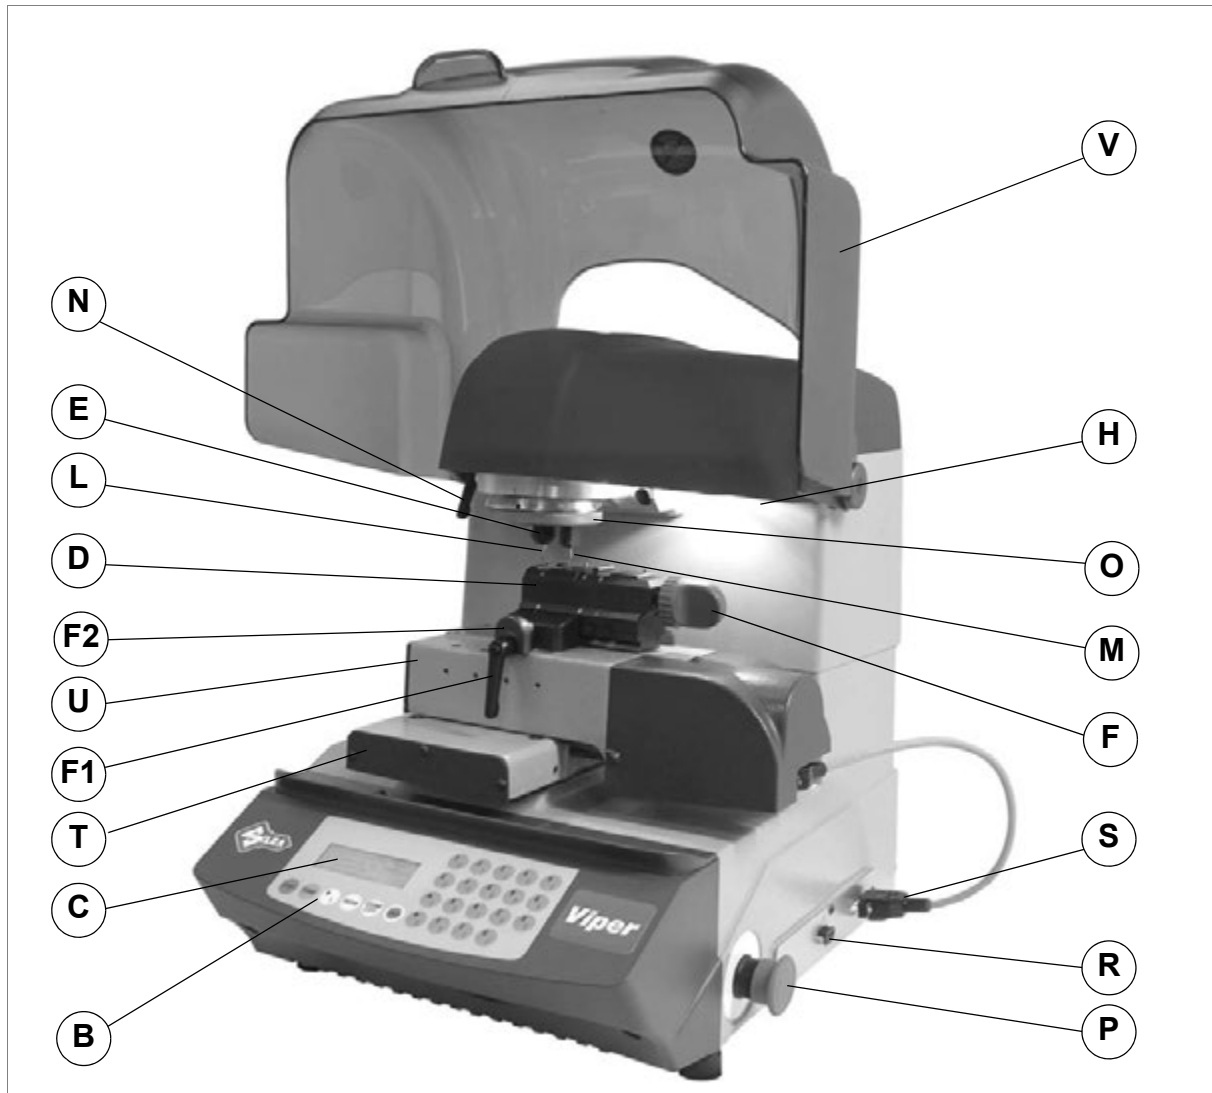

Fig. 5
The shield (V) (fig. 5, page 6) must be raised in order to fit keys for cutting or carry out other operations. Raising of the shield is controlled by a microswitch and disactivates the operating and movement functions, including the cutter. A special message appears on the display to warn that the shield is not closed. To re-start the work cycle, replace the shield in its original position and press the START button on the machine keypad.
The red emergency button (P) (fig. 5, page 6), placed on the right-hand side of the machine is used to stop it immediately in the event of faulty operation or danger for the operator.